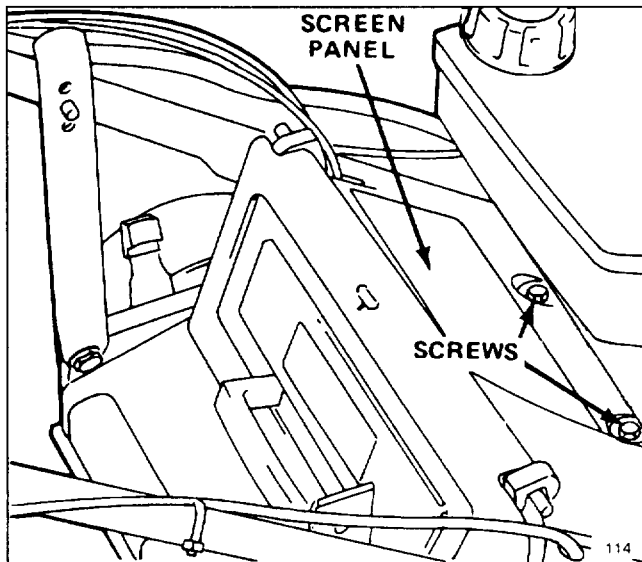

Figure 26
2. Remove (2) 1/2" self tapping screws securing panel screen to mower deck and remove panel screen (Fig. 26).